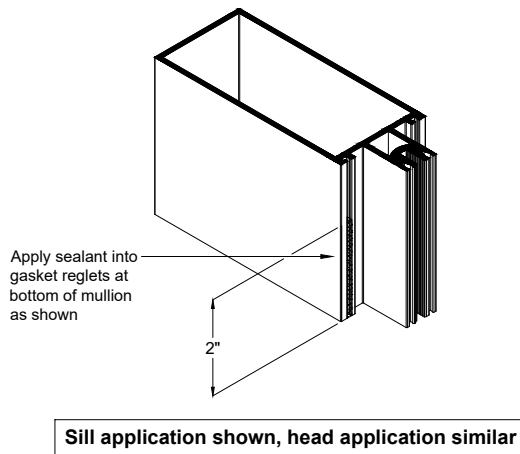

Fig.34.1
- A. Apply sealant into gasket reglet as shown in **Fig.34.1**.